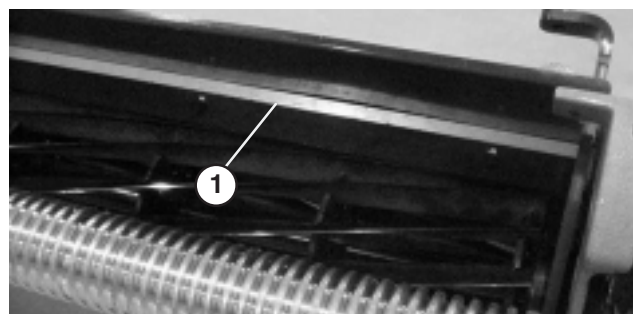

Figure 21
- Loosen screws securing top bar (Fig. 21) to cutting unit.